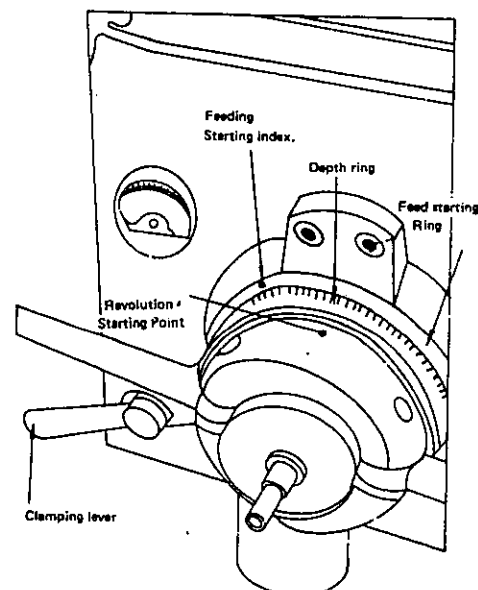

FIG. 10
- a. Loosen the clamping lever. (Fig. 10)